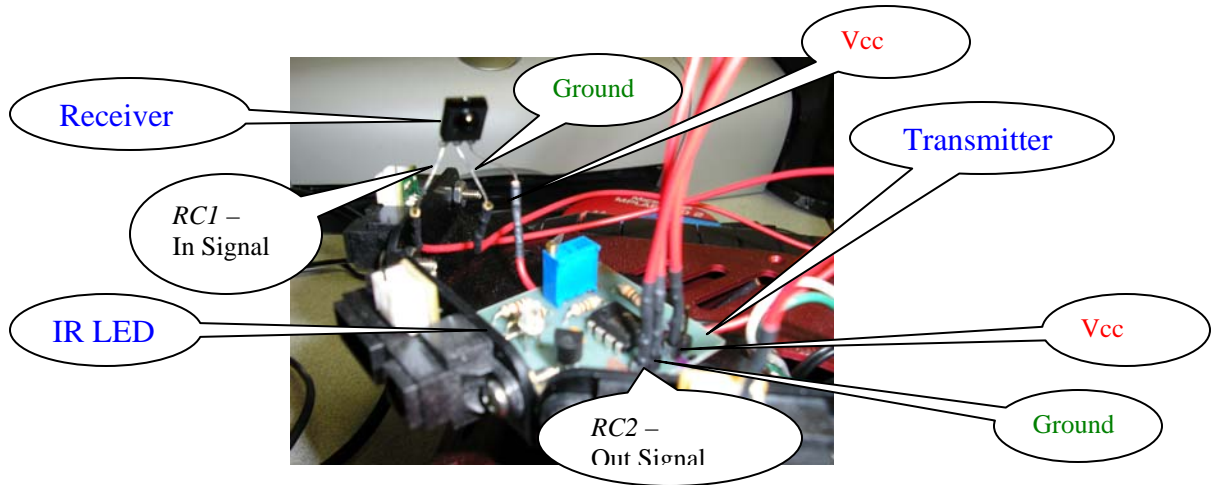

Figure 5: IR Transmitter and Receiver on Robot
- d. For testing purposes, make sure the transmitter and receiver are facing each other. Once the code is working, the transmitter and receiver should both be mounted to the front of the robot facing forward in order to communicate with other robots or to find the object (see Figure 5).